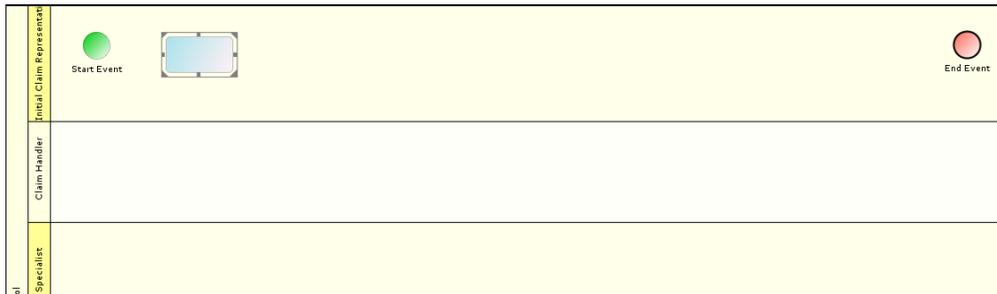

Figure 8: Dragging BPMN Activity into Swim Lane
1. Click **Activity** element (  ) in the Palette and drag it to the first swim lane (*Claim Handler*), on the Graph Canvas. The dragged activity element is displayed in the selected swim lane on the Graph Canvas (see Figure 8).